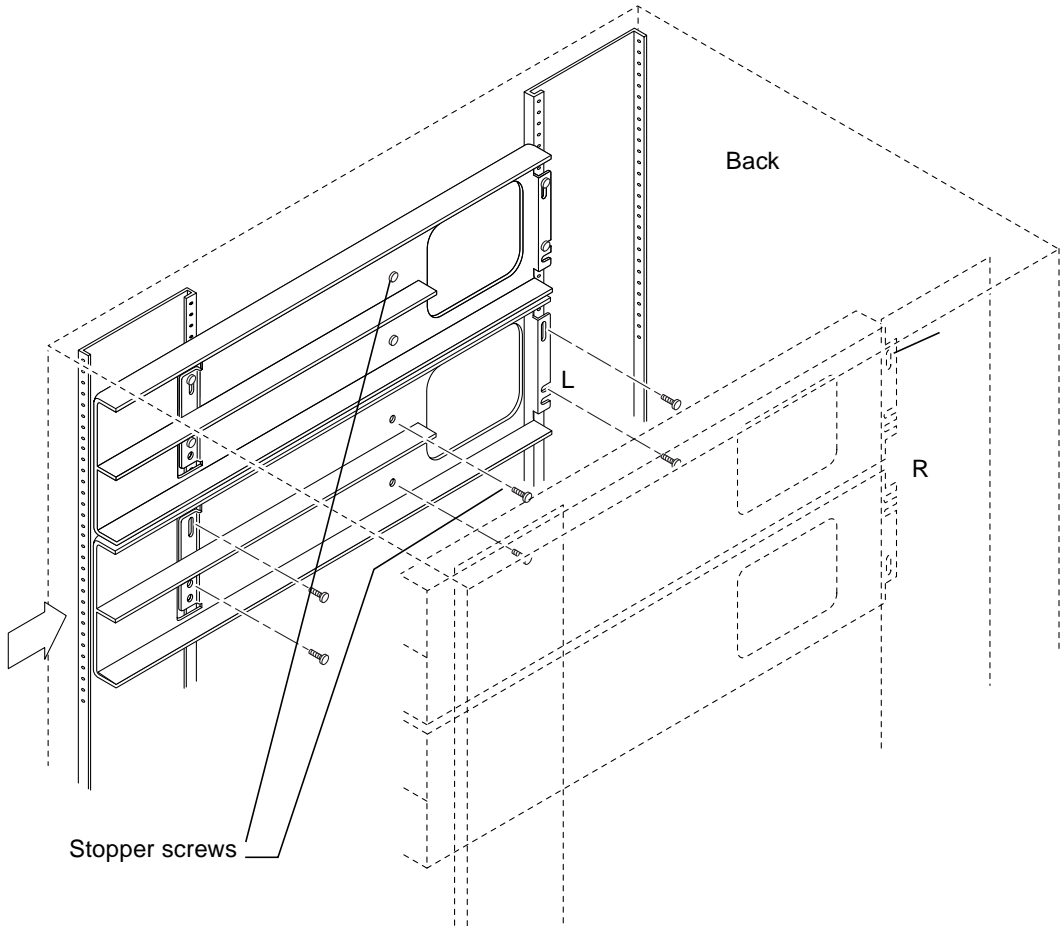

FIGURE 4-1 Attaching the Mounting Rails
1. **Before you install the rails into the cabinet, loosely start two stopper screws into each mounting rail. (FIGURE 4-1).**
2. **Working from the back of the cabinet, loosely start two screws into the cabinet rails. (FIGURE 4-1.)**